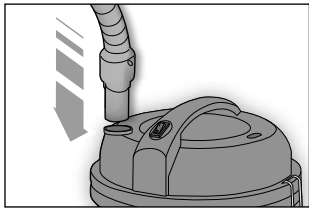

Fig. 4
- Insert the extremity of the flexible tube (Q) into the appropriate attachment (C) on the cover of the vacuum and block it by pressing it in until a click is heard (FIG. 4). To remove the tube, press the button positioned on its extremity and extract it.